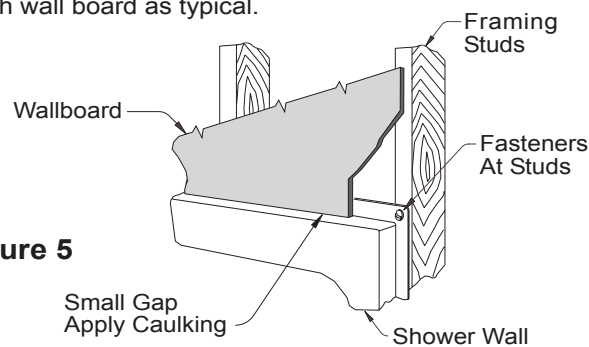

Figure 5
11. Install wallboard along unit. Wallboard should be installed so it covers the mounting flanges and mounting screws or nails. See *Figure 5*